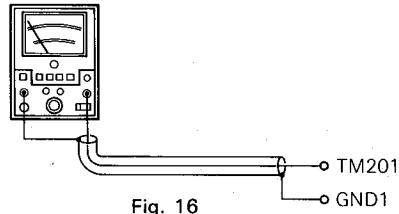

Fig. 16
- (1) Connect the jitter meter to TM201 and GND1. (fig. 16)
- (2) Insert Philips test disc # 5 and place unit in play mode on track number 9.
- (3) Confirm the jitter meter reading does not exceed 35ns.
- (4) If 35ns is exceeded, remove the disc tray. (Refer to step 2 on page 8.)
- (5) Place Philips test disc # 5 on the spindle motor.
- (6) Put unit into play mode on track number 9.
- (2) Insert the disc and place the unit in the play mode.
- (3) Adjust VR101 until the jitter becomes minimum.